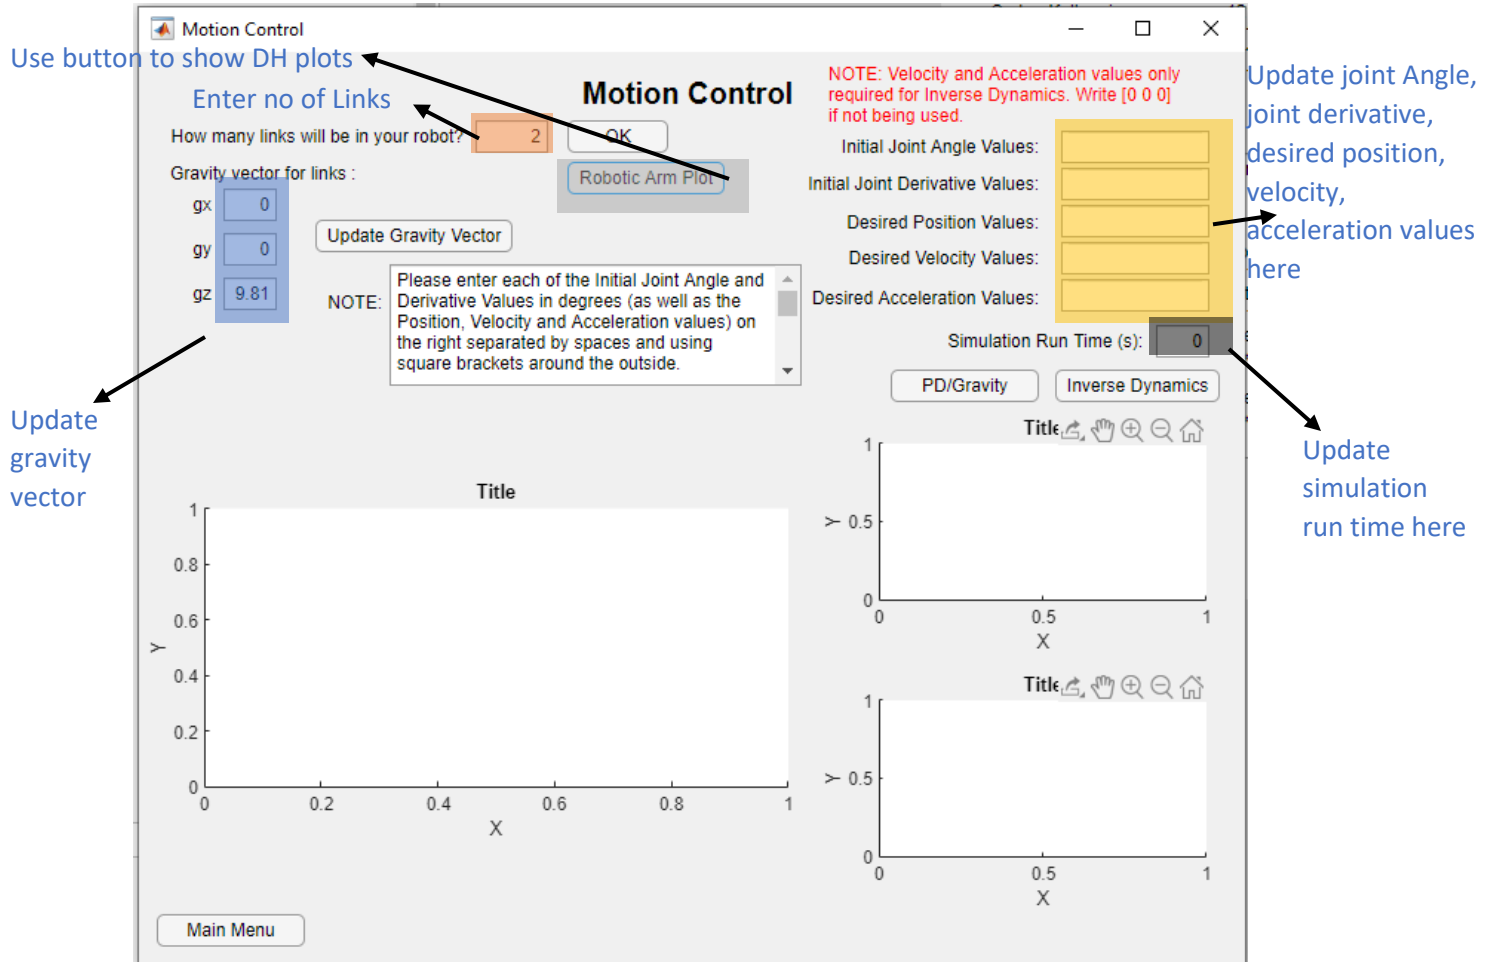
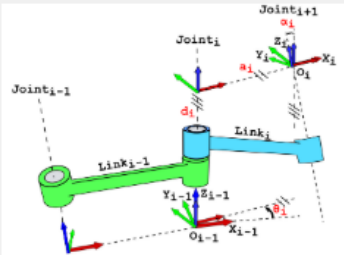
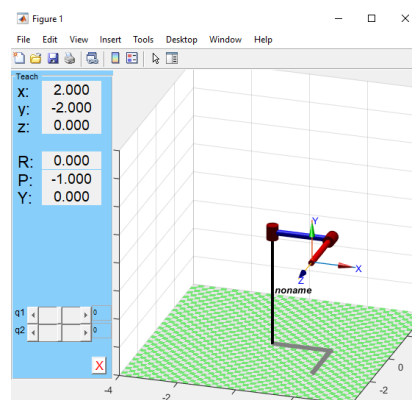

Figure 13.
Figure 14.
Figure 16.
When you have selected a NO in familiarity of DH Parameters and selected to solve for Manipulator control you will be directed to this window shown in Figure 13.
Step 1. Enter the no of link in the space highlighted by orange in figure 13. Once you click OK you will be shown a window as shown in Figure 14.
Step 2. After entering the details in Figure 14 and 15 click on Robotic arm plot button in Figure 13 to get the plot of the robotic arm to assure the DH parameters in Figure 16.
- Step 8.** Enter the run time for which we have to run the simulation in the space highlighted in black in figure 13.